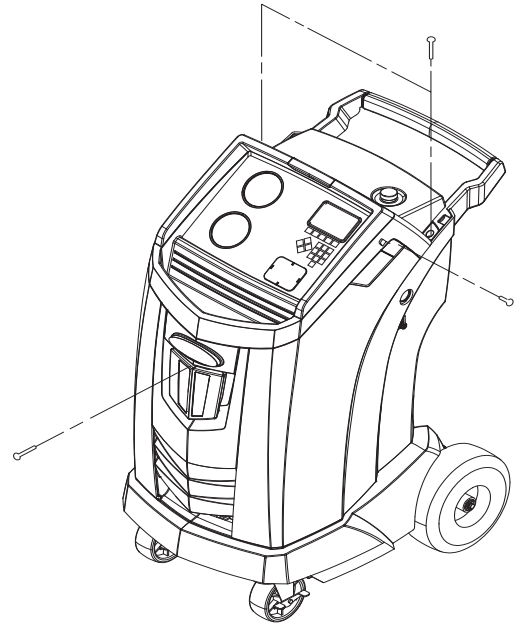

Figure 8
Shut off the machine. Remove the oil bottle. Remove the four screws holding the shroud. See Figure 8.
2. Remove the four screws holding the shroud. See Figure 8.